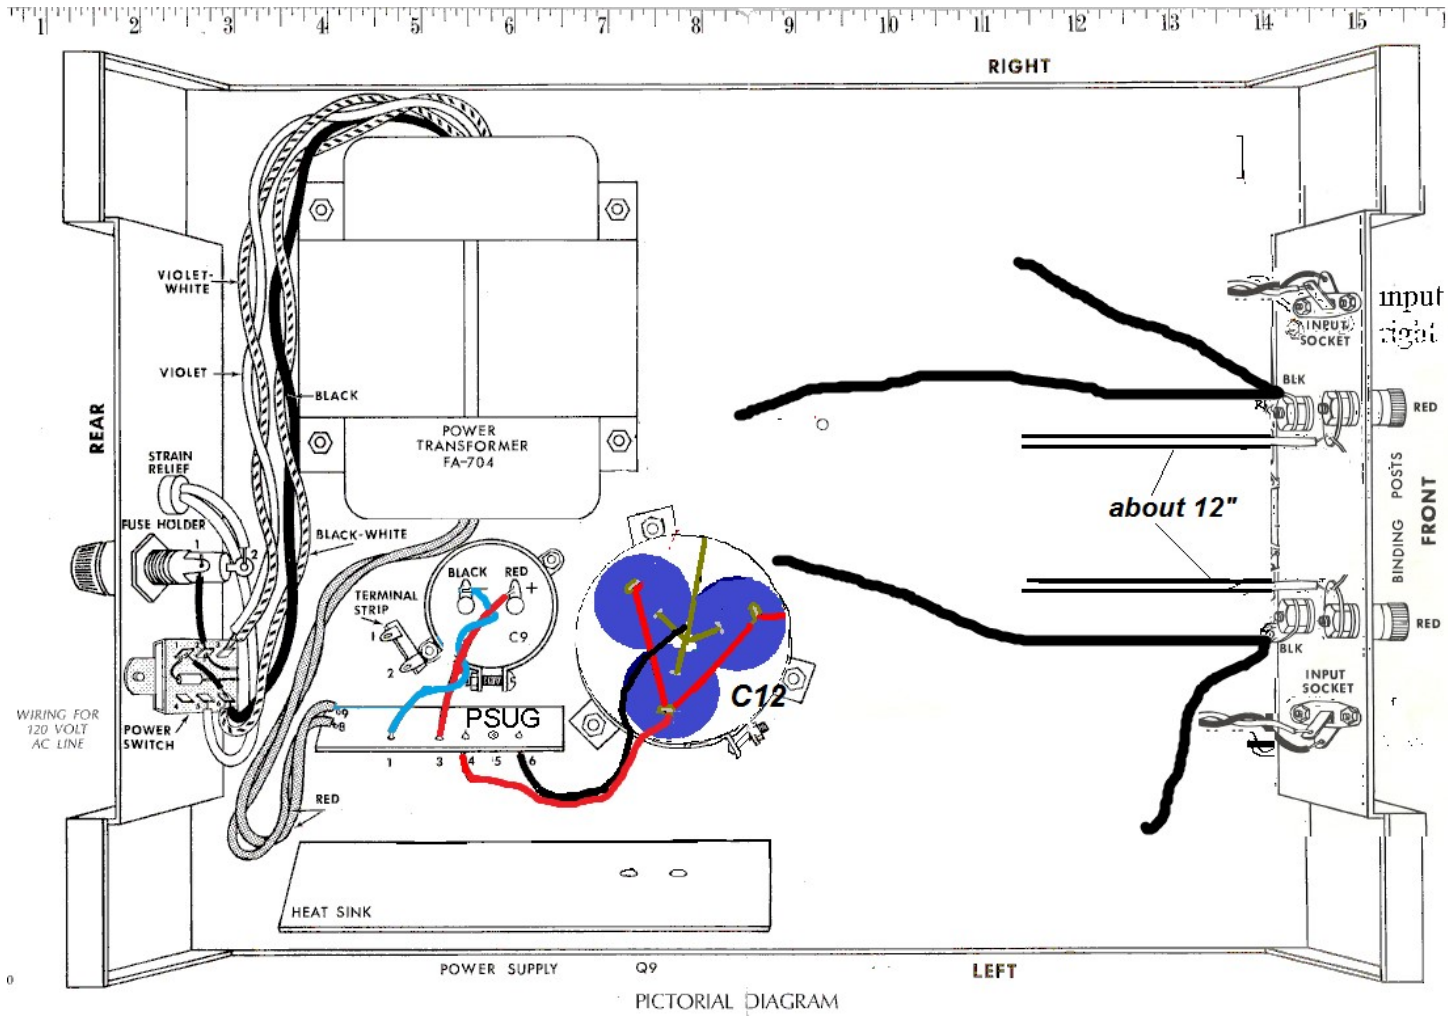

Figure 16-Power Supply Installation completed
Now it's time to install the new capacitor arrangement and reconnect the wires. Use Figure 16 to guide the re-wiring of the C12 replacement capacitor.
2. When the orientation agrees with Figure 16, snug up the capacitor clamp band. Do not over-tighten it.
Before you begin, make sure to compare your assembly to Figure 16. Double check the polarity of capacitors C9 and C12.